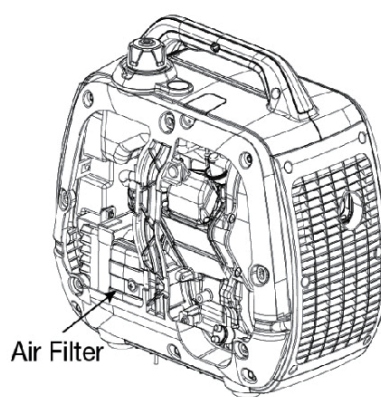

Fig. 14B
2. Remove the air cleaner cover. (Fig. 14B)